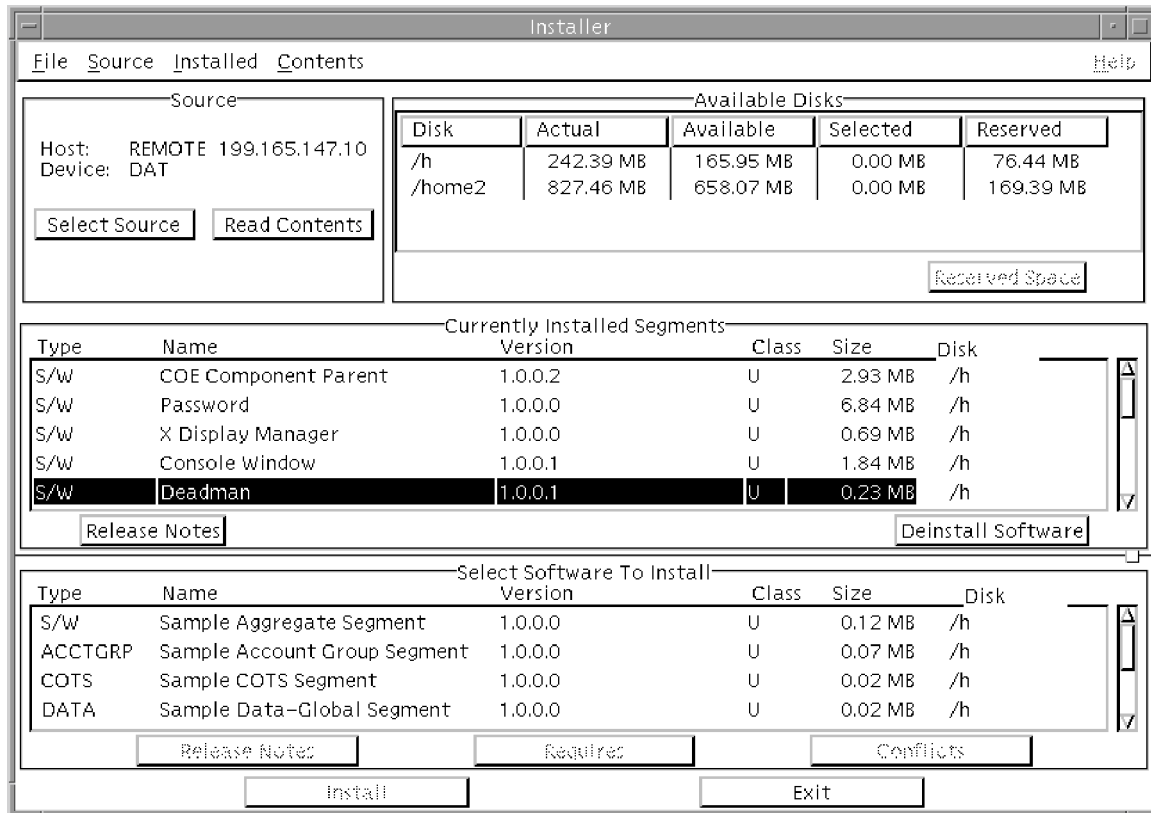

Figure 15. Installer Window with Select Software To Install Panel
Used to read the table of contents of the selected installation device. Click on a segment listed in the Installer window to highlight it and then click the Read Contents button. The media will be scanned for the segments that it contains, and then the Installer window will add the Select Software To Install panel, which lists the segments that the media contains (Figure 15). Any number of segments may be selected in this panel for installation. See Section 6.3.1.3, *Installing Segments*, for additional information about the segment installation process.
- STEP 2: Read the table of contents of the selected installation device.** Click on the `Read Contents` button in the `Source` panel. The media will be scanned for the segments that it contains, and then the `Installer` window will add the `Select Software To Install` panel, which lists the segments that the media contains (Figure 15). Any number of segments may be selected in this panel for installation.